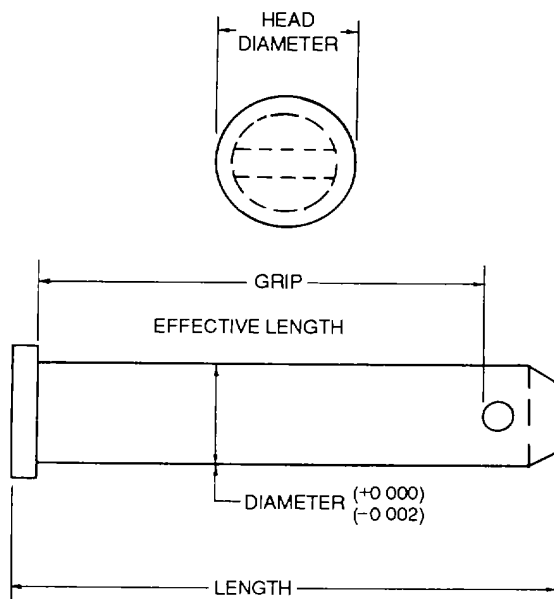

Figure 2-46. Clevis Pin
a. Clevis Pins. Clevis pins (flat-head), MS20392, as shown in figure 2-46, are usually used with tie rod terminals. This pin may be used in secondary controls not subjected to continuous operation, and where chances of working loose are negligible. The pin should be safetied with a cotter pin and installed with the head up, when possible, so the pin will remain in place if the cotter pin fails or works out.